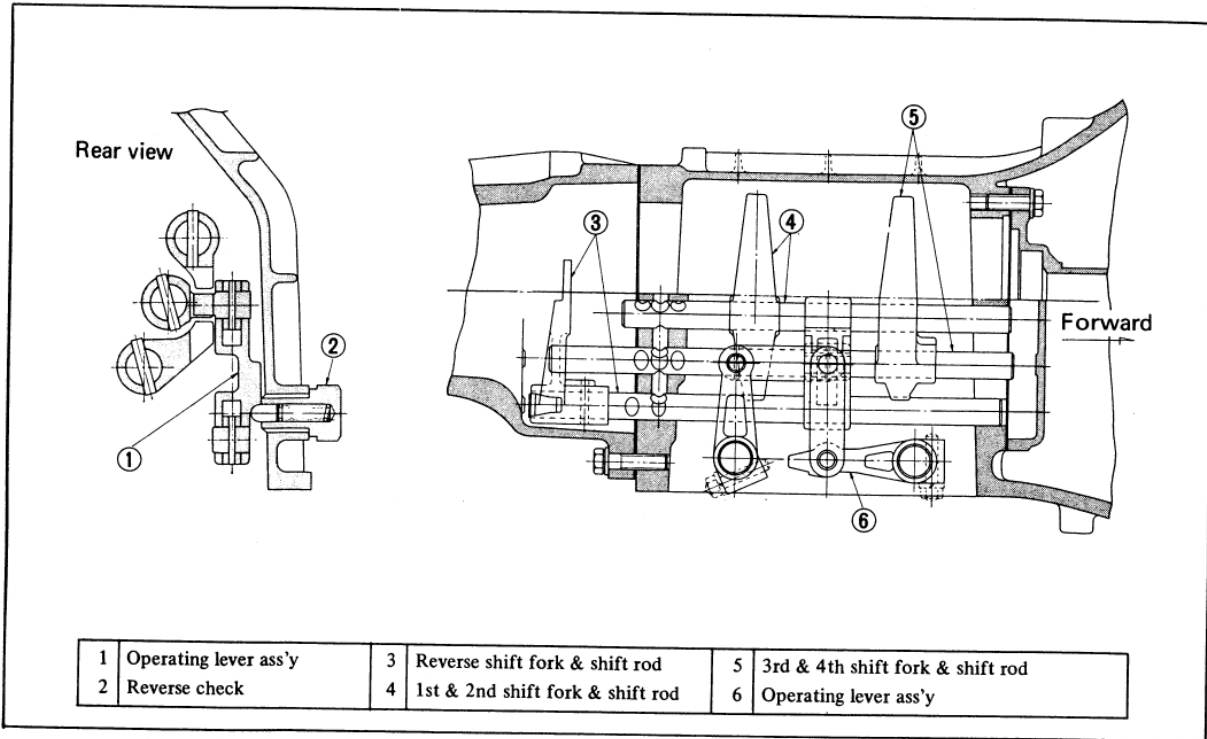

Fig. TM-31 Layout of shift fork and operating lever
3. Set up operating lever to the correct direction. Insert cross shaft into case. Assemble thrust washer, snap ring and operating lever in case, and set operating lever stationarily with lock pin. See Figure TM-31.